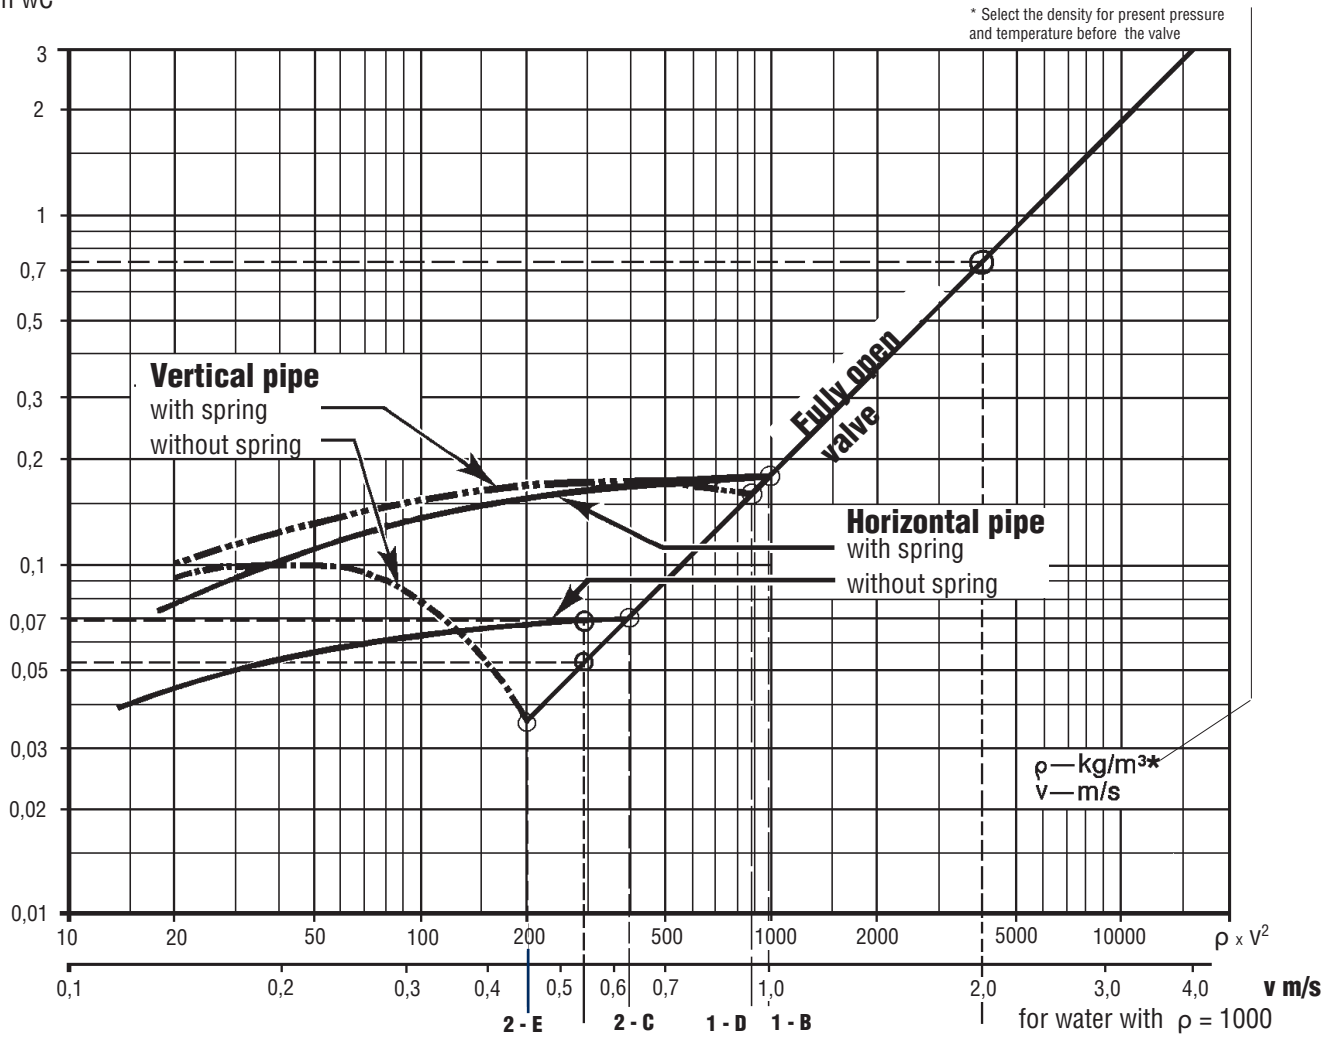

Fig. 1
The dynamic opening force on the disc depends on density of the medium and flow velocity in the pipe. Use the diagram in fig. 1. Set the value of ρxv^2 on the horizontal axis and check the curves.
The curves in fig. 1 represent sizes up to DN 250. The pressure drop is lower for larger sizes. Reduce the diagram pressure drop values with following factors:
A. Before the valve is fully open, the pressure drop across it exceeds the value shown - see fig. 1.
2. Low-pressure gases. The opening dynamic force is affected by density. Make certain that velocity and density are adequate to open the valve - fig. 1.